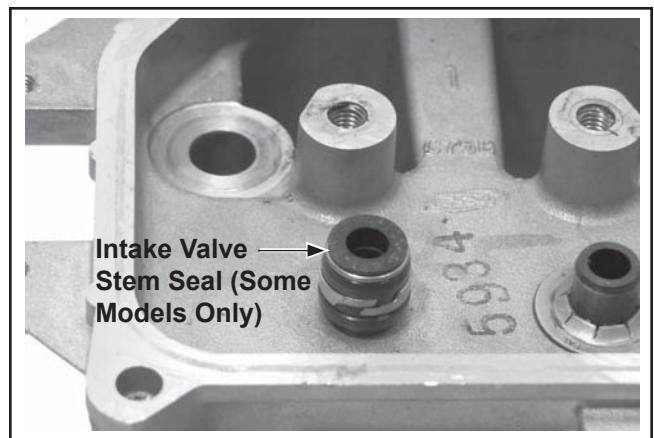

**Figure 10-39. Installing Grass Screen.**
1. Snap the screen onto the fan. See Figure 10-39.